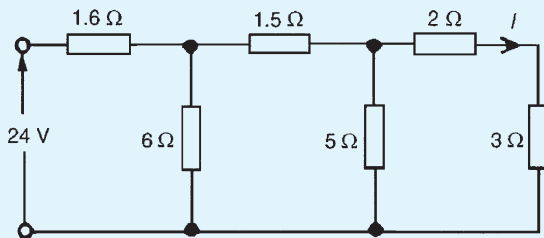

Figure 5.34
10. Find the current I in Fig. 5.34.